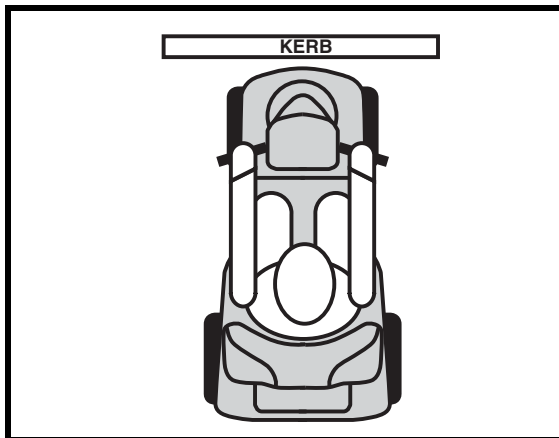

Figure 3. Correct kerb Approach
**WARNING!** Be sure your scooter is traveling perpendicular to any kerb you may be required to ascend or descend. See figures 3 and 3A.